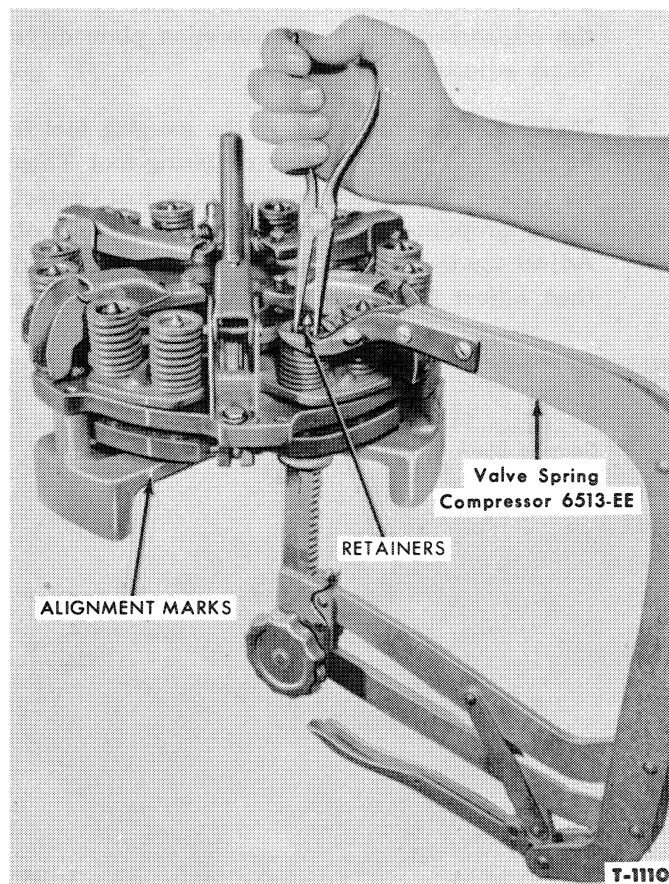

Figure 11—Removing or Installing Pressure Plate Springs
2. Use Valve Spring Compressor 6513-EE to compress clutch pressure plate springs, Figure 11. Remove the retainers with a punch and hammer, then remove the spring seats and springs.
7. Install all the clutch pressure plate springs, spring seats and retainers, using the Valve Spring Compressor 6513-EE as shown in Figure 11.